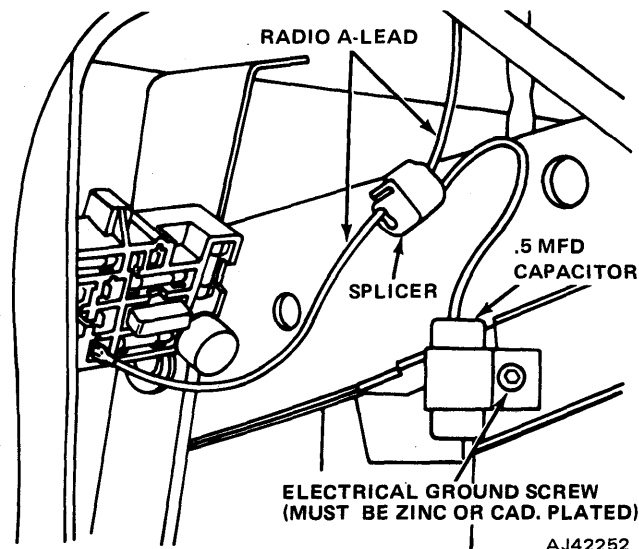

Fig. 3-94 Wiring Harness Noise Suppression
- (1) Relocate wiring away from ignition wires.
- (2) Install 0.5 mfd capacitor on each fuse panel lead. Be sure capacitor is grounded (fig. 3-94).
- (3) Relocate wiring away from tachometer and ammeter wiring.
- (4) Remove loops from harness wires.